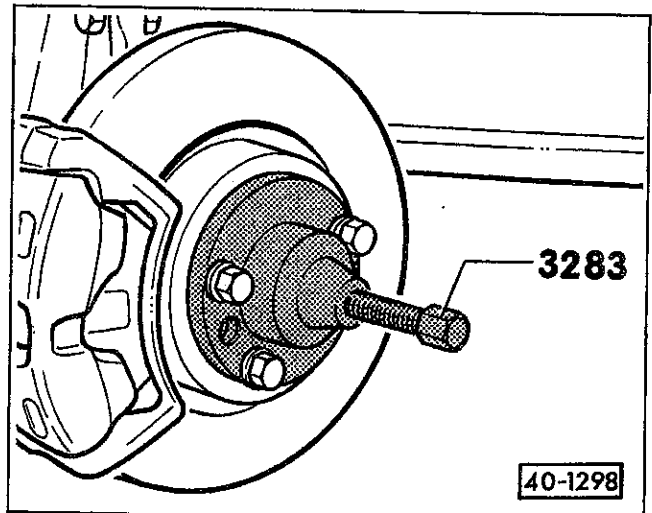

Fig. 15. Axle shaft being pressed out of wheel hub. Number indicates VW special tool.
4. Remove the axle shaft nut and remove the drive axle from the wheel hub. If necessary, press the axle out of the wheel hub. See Fig. 15. Cover the exposed inner CV joint.